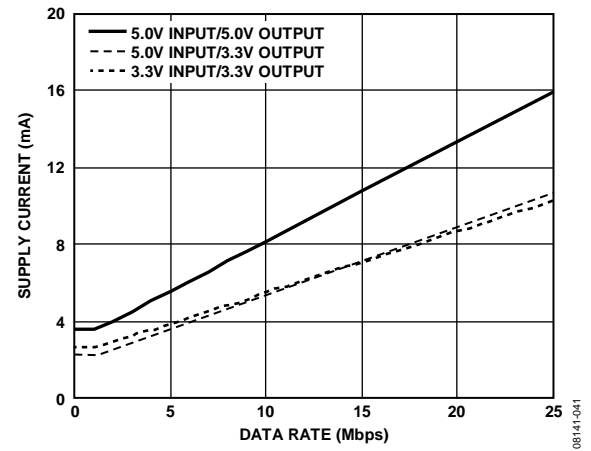
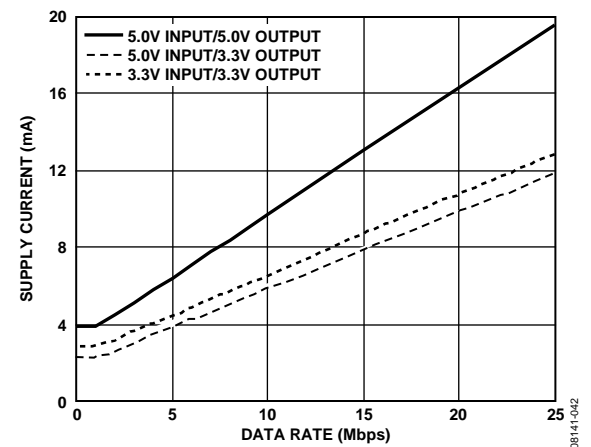

Figure 23. Typical  $I_{Chn}$  Supply Current per Forward Data Channel (15 pF Output Load)
Figure 24. Typical  $I_{Chn}$  Supply Current per Reverse Data Channel (15 pF Output Load)
Both dynamic input and output current is consumed only when operating at channel speeds higher than the refresh rate, f. Each channel has a dynamic current determined by its data rate. Figure 23 shows the current for a channel in the forward direction, which means that the input is on the primary side of the part. Figure 24 shows the current for a channel in the reverse direction, which means that the input is on the secondary side of the part. Both figures assume a typical 15 pF load. The following relationship allows the total IDD1 current to be calculated:
- ICHn is the current drawn by a single channel, determined from Figure 23 or Figure 24, depending on channel direction.
- IISO(D)n is the dynamic load current drawn from VISO by an input or output channel, as shown in Figure 23 and Figure 24 for a typical 15 pF load.